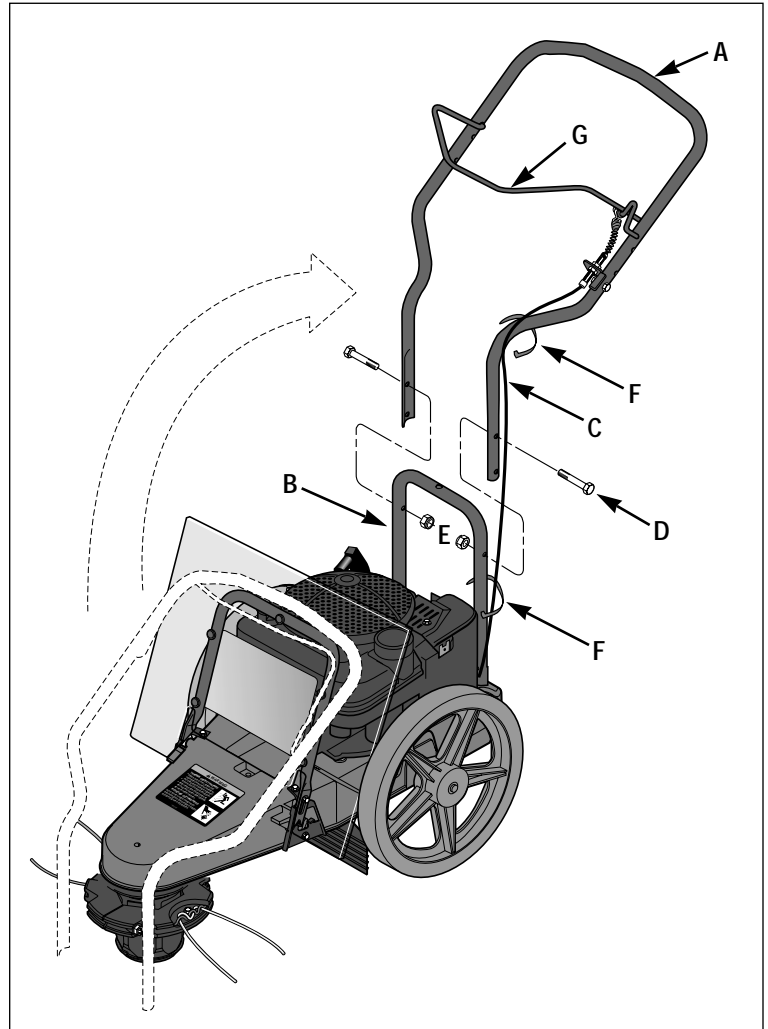

Figure 2-2: Handlebar installation.
1. Remove the plastic tie and tape that secure the control bail (G, Figure 2-2) to the handlebar (A).
2. Carefully lift the handlebars (A, Figure 2-2) to the rear of the unit and align the handlebar legs with the handlebar support bracket (B).
3. Route the trimmer head control cable (C, Figure 2-2) to the outside of the handlebar.
4. Select the low or high height setting holes in the handlebar legs and attach the legs to the support bracket (B) using two 5/16-18 x 1-1/2 hex hd. screws (D) and 5/16-18 locknuts (E).
5. Use two cable ties (F, Figure 2-2) to secure the trimmer head control cable (C) to the handlebar at the locations shown.